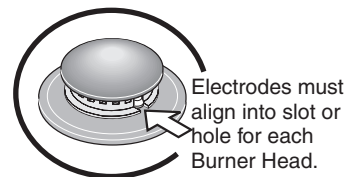
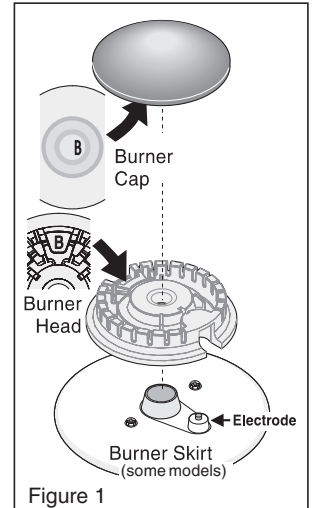
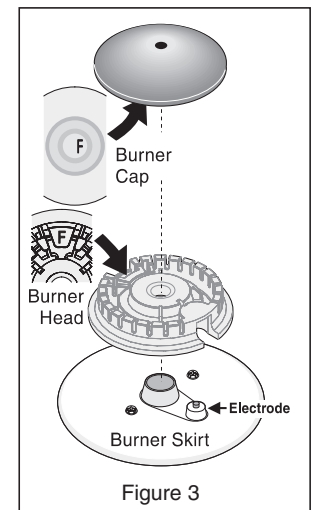

Figure 2
Figure 1
Figure 3
3. To replace the Burner Heads & Caps, match the letters located under center of Burner Caps with the letters located inside Burner Heads (Figure 1).
4. Match Burner Skirts (some models) or the emboss on the cooktop with Burner Heads and Burner Caps (see Figure 1). Replace the Burner Heads and Caps on cooktop (see Figure 2). Carefully align the Electrodes into slot or hole of each Burner Head (Figure 3). Note: The Burner Heads should sit flat on Cooktop Burner Skirts.
2. Remove all packing tape from cooktop. Remove Burner Caps and Burner Heads (See Figure 3).